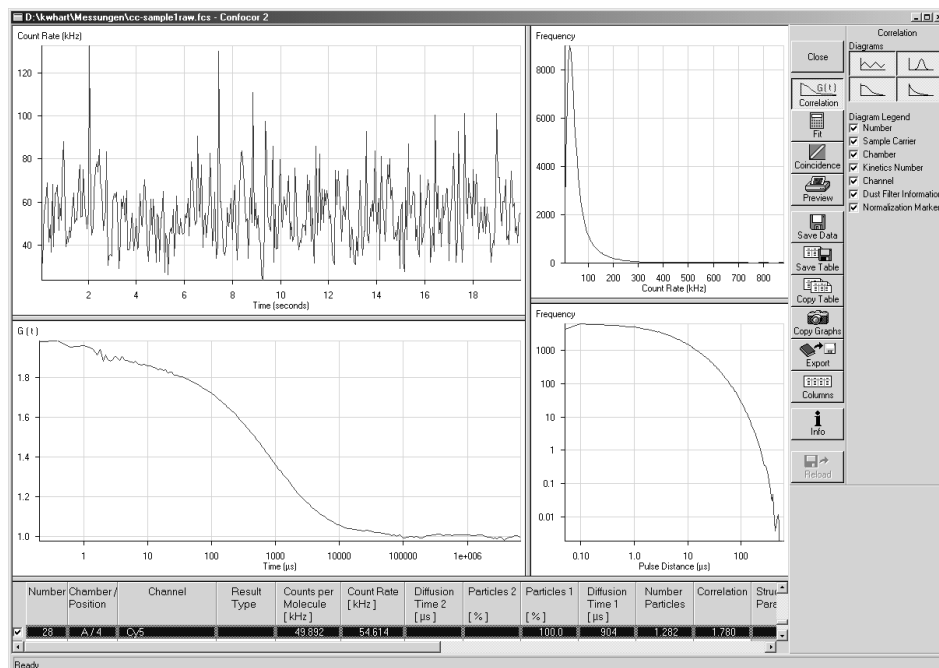

Fig. 5-31 FCS data file window
- This opens the FCS data file in a separate window (see Fig. 5-31).